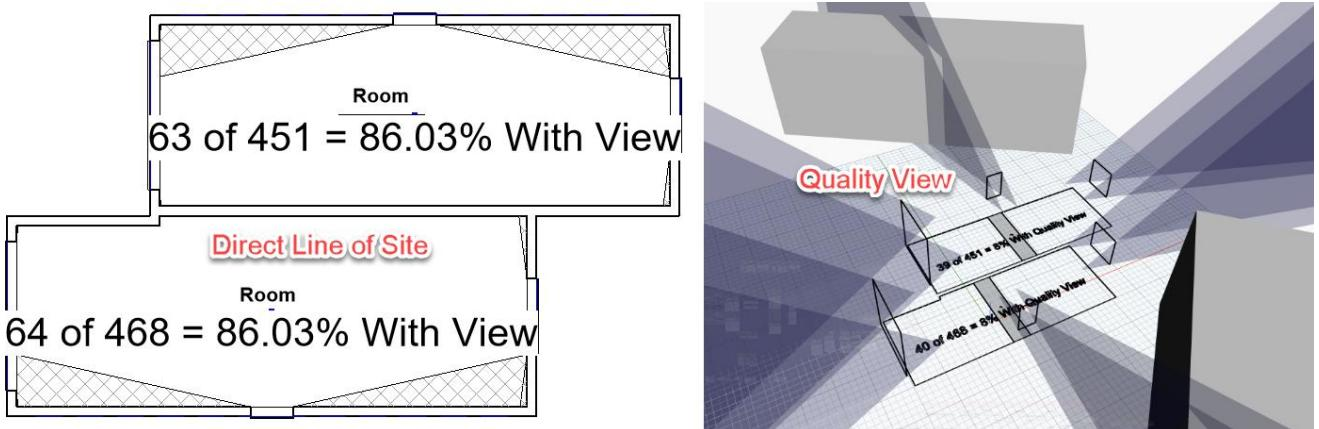

Figure 3.0: View quality (QV) and direct line of sight (DLS) analyses for design 1
The purpose of View Quality analysis is to assure the connection with the outdoor environment, see Figure 3.0. This analysis entails two indicators: The Direct Line of Sight (DLS) that calculates the percentage of the floor area of the building with exterior view, and the Quality View (QV) that calculates the percentage of the area that allow the view of some relevant elements of the landscape. These two indicators are based on the Chapter Indoor Environmental Quality from the Guide for Building Design and Construction LEED V4 (Updated July 1, 2014).
sampled view point inside the building, as it would be represented in a section, and computes the intersection of these 2D fields with relevant elements of the landscape, see Figure 3.0 / 3.7.